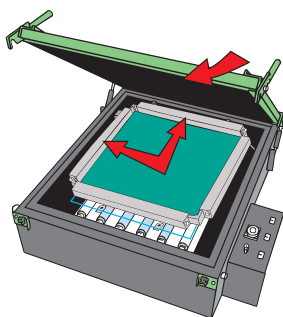

Figure 21: Put your coated screen against the Exposit screen exposure unit. Repeat for all screens.
6. Take the first coated screen, bump it against the stops, and sit it on top of the positive that is located on the pins of the glass and shoot that screen. (Figure 21)